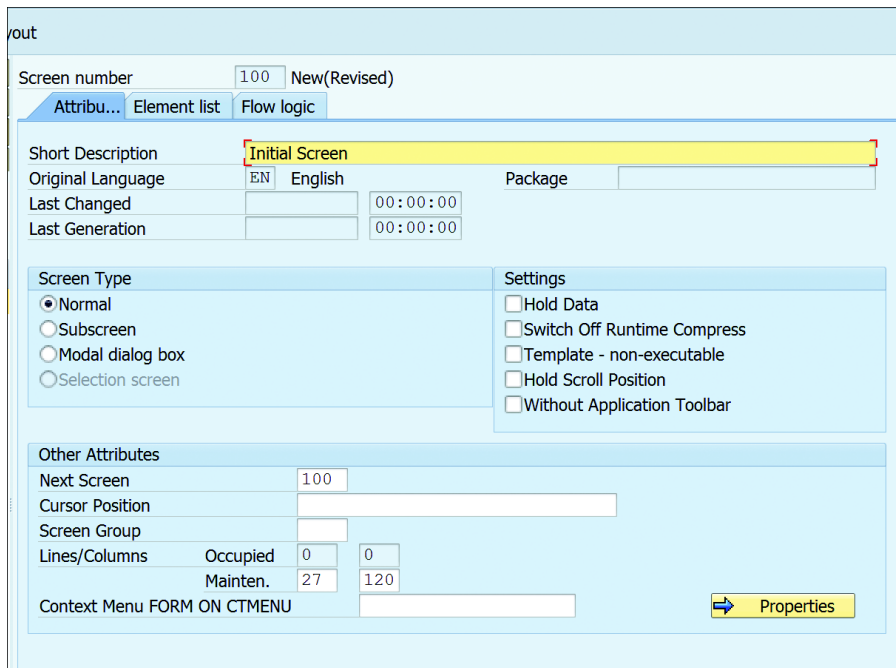

Figure 12.10 Change Screen Attributes
- The system will display the CHANGE SCREEN ATTRIBUTES screen (see Figure 12.10). This screen consists of three tabs: ATTRIBUTES, ELEMENT LIST, and FLOW LOGIC.